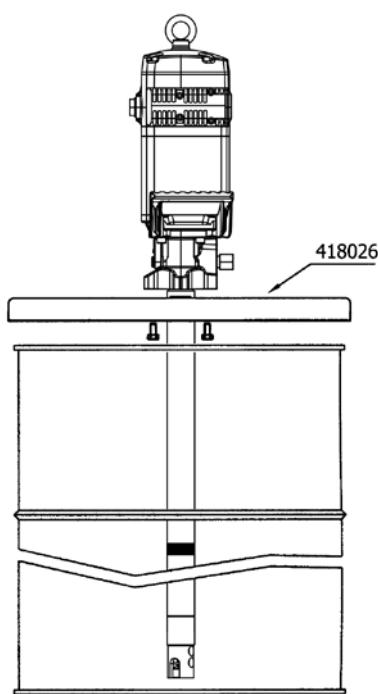

Fig. 1
- Mounting with reinforced cover (418026 for 185 kg drum). Insert the pump through the cover and fasten it with the enclosed screws. Insert the pump through the bung opening and fasten the cover onto the drum firmly (see figure 1).